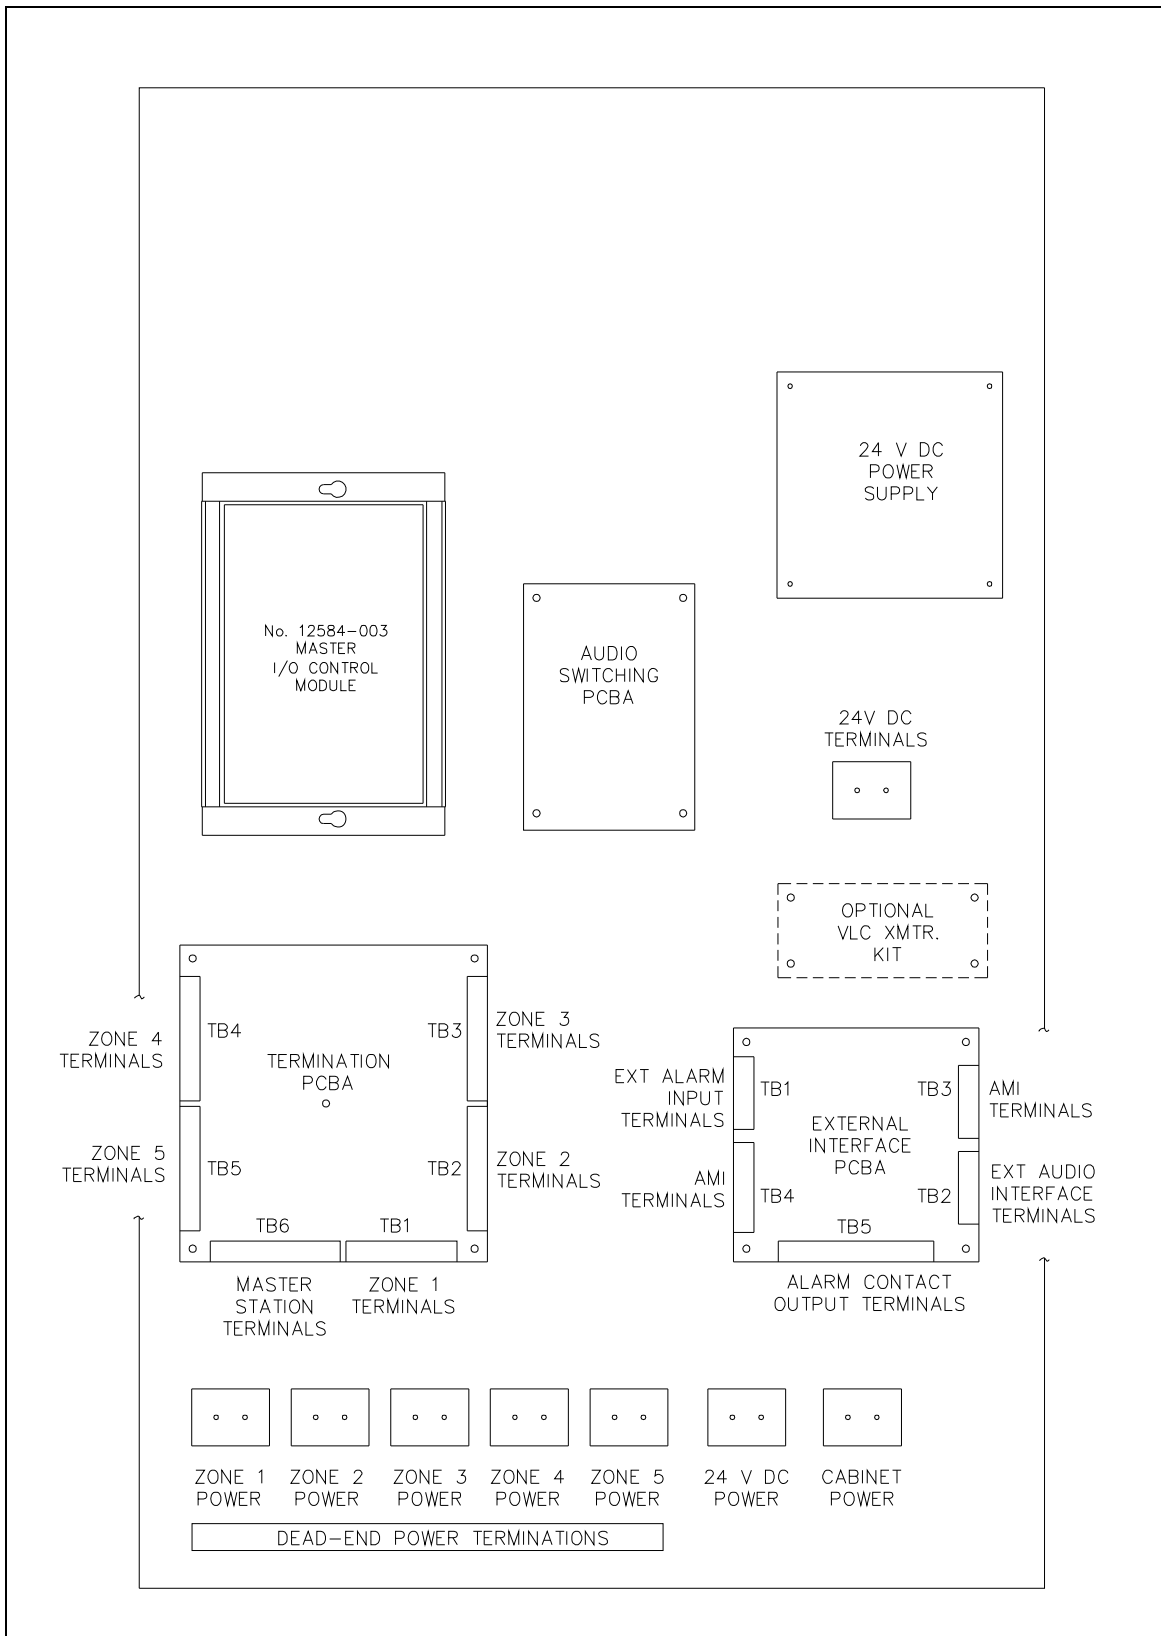

Figure 2. Merge/Isolate Cabinet Component Locations
1. Locate the termination PCBA in the lower left corner of the cabinet. See Figure 2.
1. Remove the page line conductors from terminals 7 and 8 on the termination PCBA. See Figure 2 for terminal block location for the master station.
1. Remove the zone page line conductors from terminals 1 and 2 on the termination PCBA. See Figure 2 for the terminal block location for each zone.